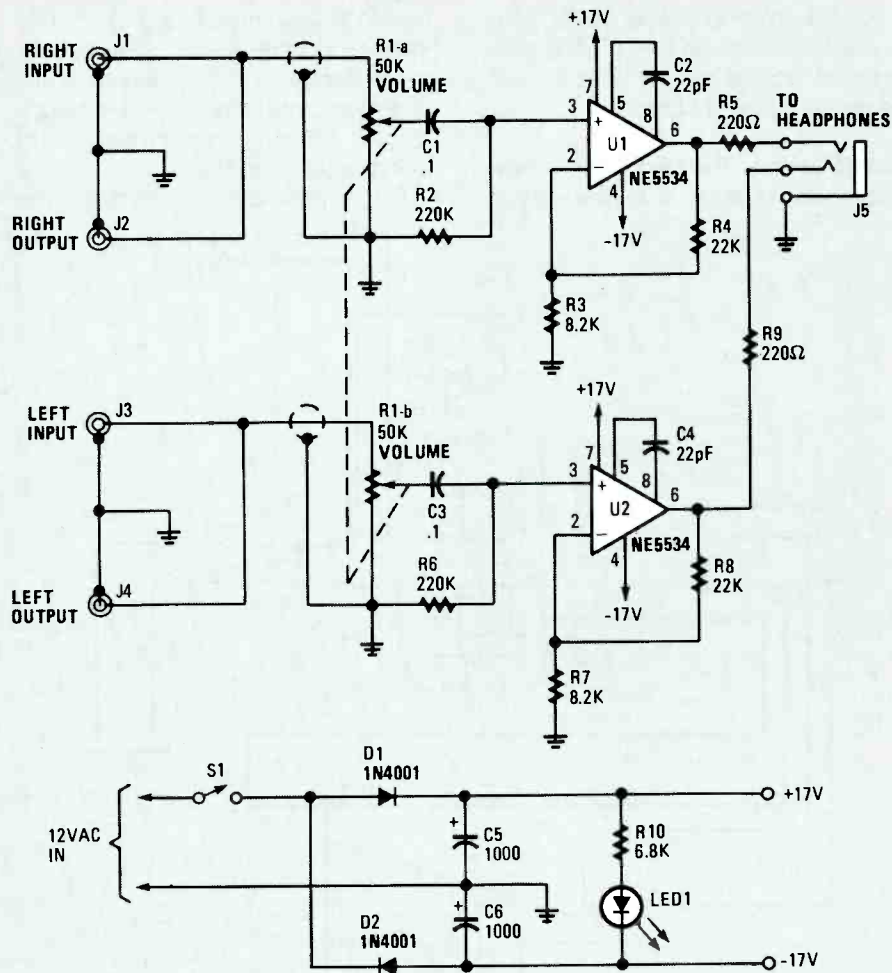

Fig. 1. The circuit—which is built around a pair of 5534 low-noise op-amps, allowing a very simple power supply to be used—gives excellent sound reproduction.
**How It Works.** Refer to Fig. 1. The circuit is built around two Signetics NE5534 low-noise bipolar op-amps (one for each channel), which provide the necessary boost to drive the headphones. Unaided, most op-amps would be unable to handle the job. But the NE5534, with its unusually low noise